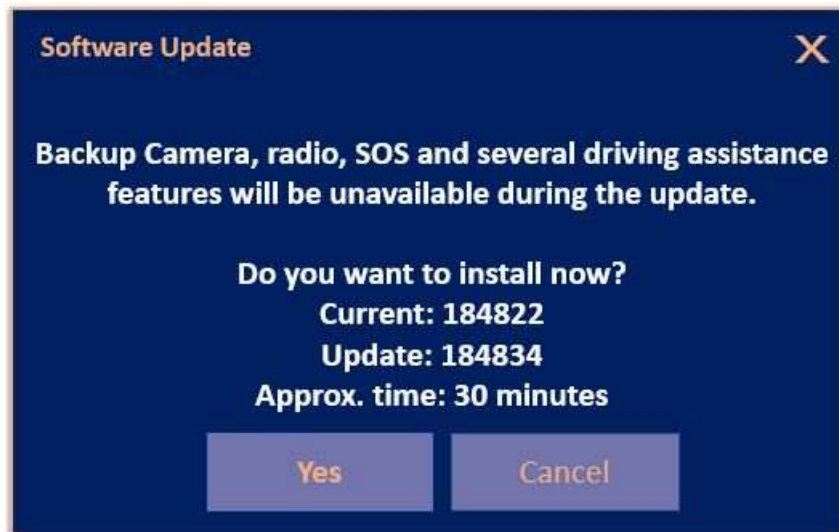

Fig. 7
16. Press "Yes" to start the update. The software update takes approximately 30 minutes to complete (Fig. 7).